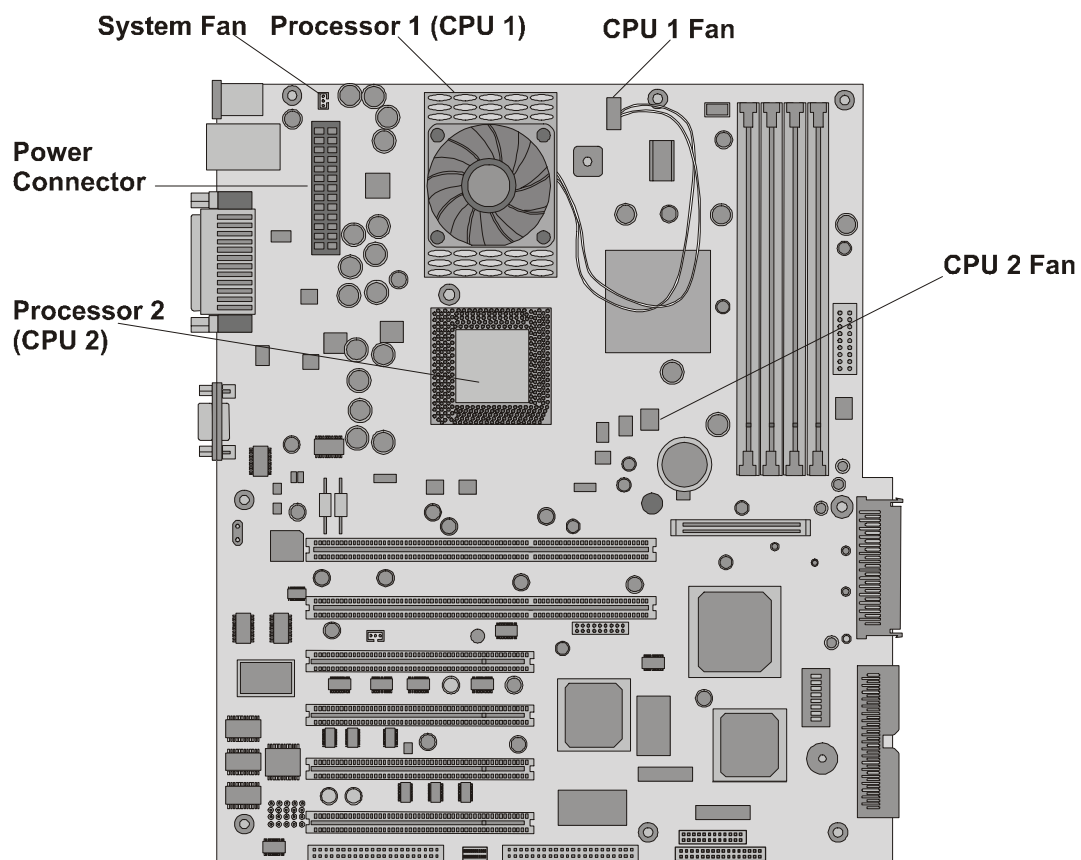

Figure 3-16. System Board (top view)
The HP Server tc3100 ships with at least one processor installed. Both primary and secondary processor sockets are located on the system board (primary processor socket – CPU 1). The voltage regulator modules (VRMs) are embedded in the system board. See Figure 3-16.
- Install the second processor in the secondary slot (CPU 2). See Figure 3-16.
This section provides the instructions for installing a second processor and its heatsink on the system board. Figure 3-16 indicates the location of the primary and secondary processors.